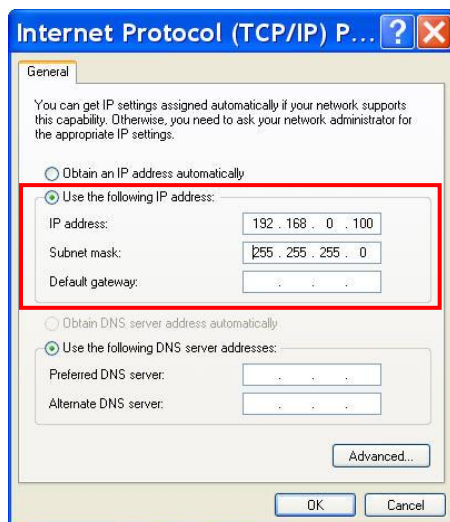

Figure 67: Internet Protocol Window
6. Select the option, *Use the following IP address* (see Figure 67).